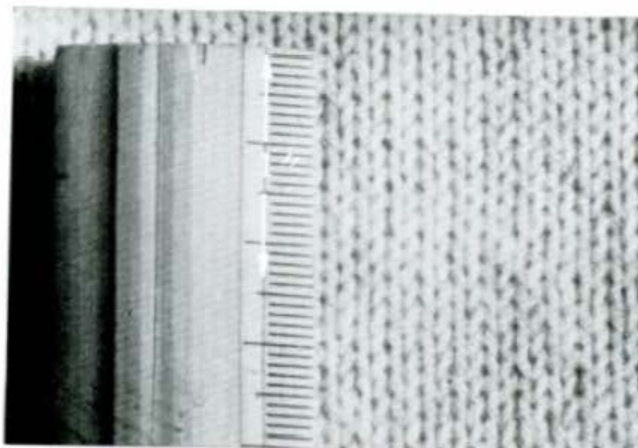

Fig. 22
- b. Count the number of stitches per inch across, and the number of rows down per inch. (See Fig.22). Based on this mathematical approach, it soon becomes a simple matter to create your own garments on your knitter, with the assurance that the size will be correct. It is recommended that a small test swatch be made before starting each garment to prove correctness of gauge.